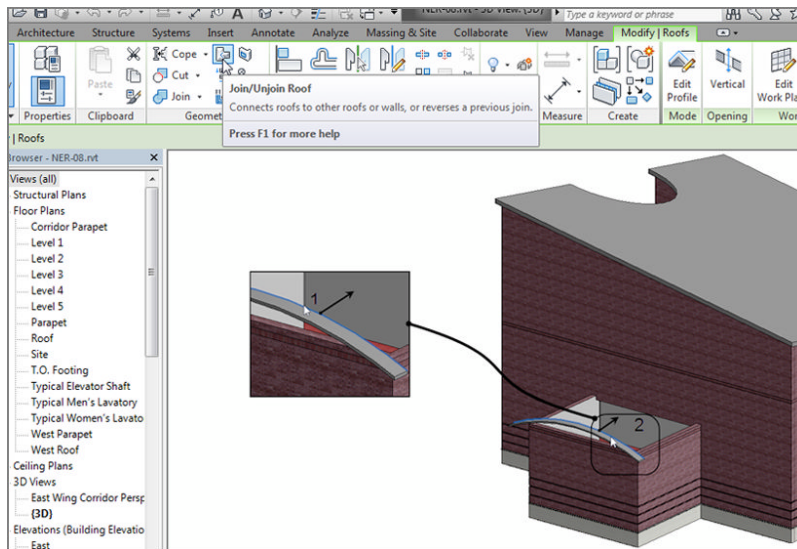

FIGURE 7.56: Picking the roof and the wall to join the two together
1. On the Modify tab, click the Join/Unjoin Roof button, as shown in Figure 7.56.
2. Pick the top, back arc on the canopy roof, as shown in Figure 7.56.
3. Pick the wall into which the roof needs to terminate (see Figure 7.56).